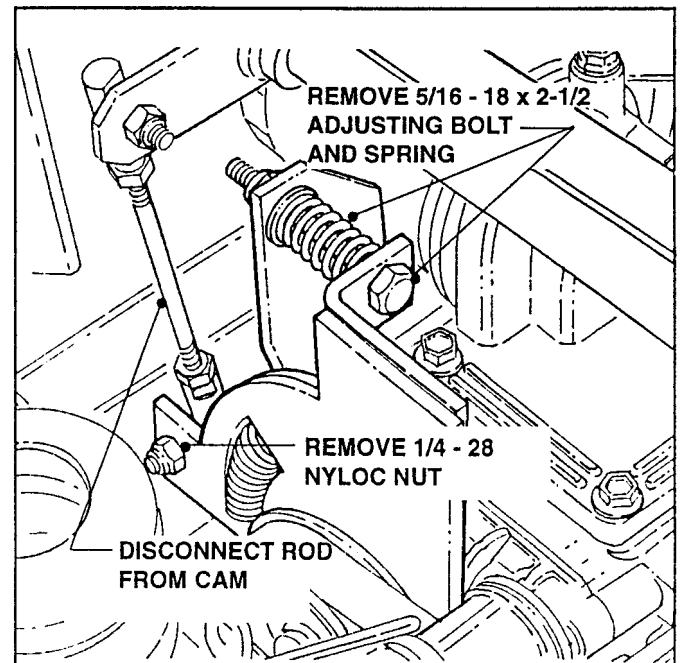

FIGURE 5.9
- B. Remove the 1/4 - 28 Nyloc Nut from the Control Rod on the Neutral Return Cam. Disconnect Rod from Cam. See Figure 5.9.
- C. Remove the 5/16 - 18 x 2 1/2" Neutral Return Adjusting Bolt and Spring. See Figure 5.9.